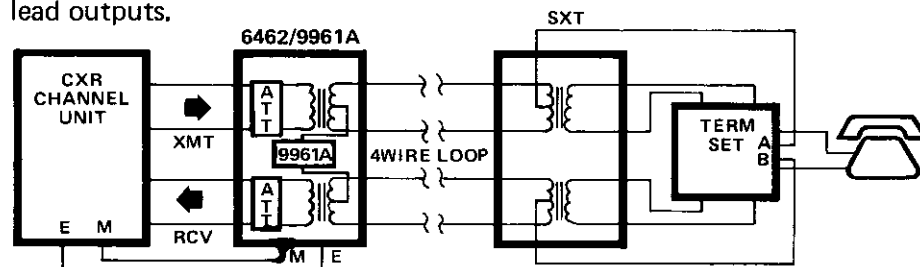

figure 2. Typical application of 6462 equipped with 9961A
2.04 The 9961A Signaling Converter FXS (foreign exchange, station) subassembly, when mounted on the 6462 module, provides conversion between E and M signaling and loop signaling conventionally used at the station end of a foreign-exchange circuit (figure 2). Specifically, the 9961A converts E-lead signals to ringing and tip-ground supervision toward the station, and also converts loop supervisory and dialing signals from the station to M-lead outputs.